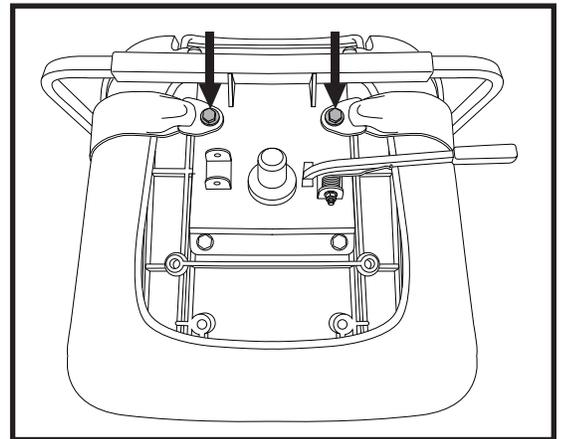

Figure 14. Positioning Belt Bolts
The seat rotation lever, located on the right side of the seat base, secures the seat into several positions. See figure 14.
Your vehicle seat may be equipped with an auto-type positioning belt that can be adjusted for operator comfort. See figure 14. The positioning belt is designed to help support the operator so that he or she does not slide down or forward in the seat. The positioning belt is not designed for use as a restraining device.
2. Place the seat upside down so that you can see the bottom of the seat base. See figure 14.